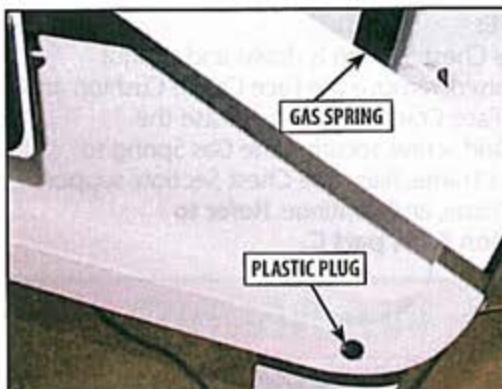

FIGURE 5.9
5. Remove the plastic plug covering the outside of the Upper Support Frame to allow access to the bolt. **Refer to Figure 5.9.**